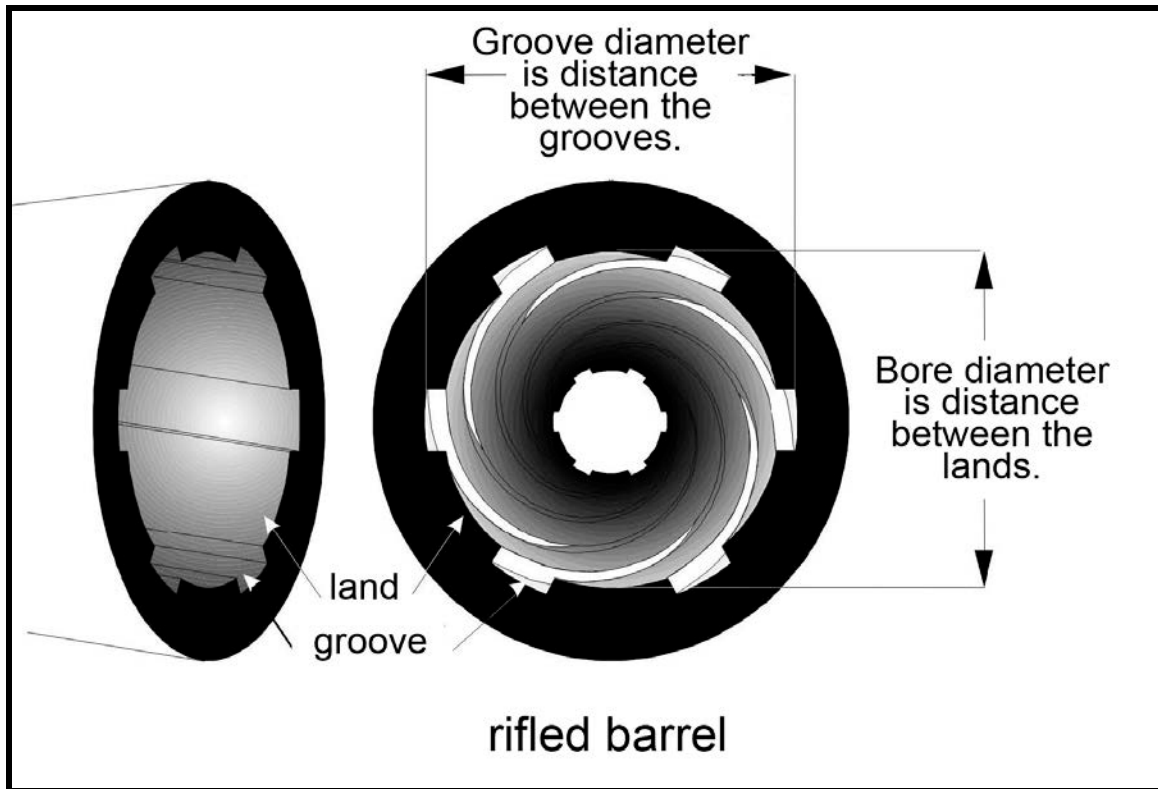

Figure 91. Rifled barrel
- a. Most hand guns have a rifled barrel. Rifled barrels have a series of spiral grooves inside the barrel. The ridges of metal between the grooves are called lands. The lands and grooves together make up the rifling (Figure 91).